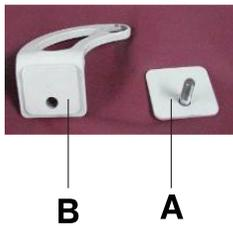
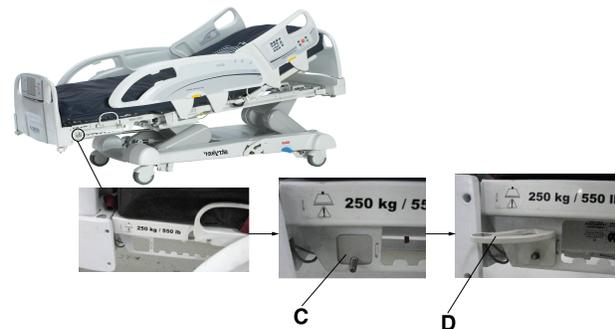

Figure 77: Bracket and bracket back
Figure 78: Installing the bracket back and bracket
1. Install the bracket back (A) and the bracket (B) (Figure 77 on page 81) onto the end of the foot end foley bag hook at the foot end of the product (C and D) (Figure 78 on page 81).